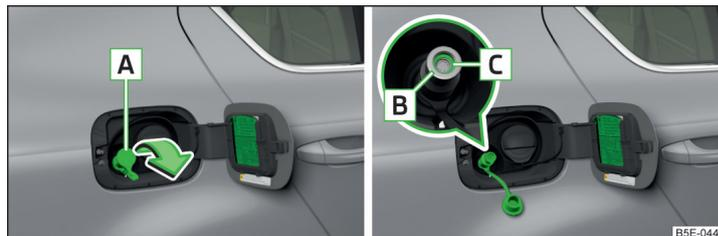

Fig. 305 Natural gas filler tubes
- Remove cap **A** » Fig. 305 in the direction of the arrow and insert connector for the refuelling system into filler neck **B**.
- ▶ Check that sealing ring **C** » Fig. 305 has remained inserted in filler neck **B**. If the sealing ring has slipped on the connector, reinsert it into the filler neck.